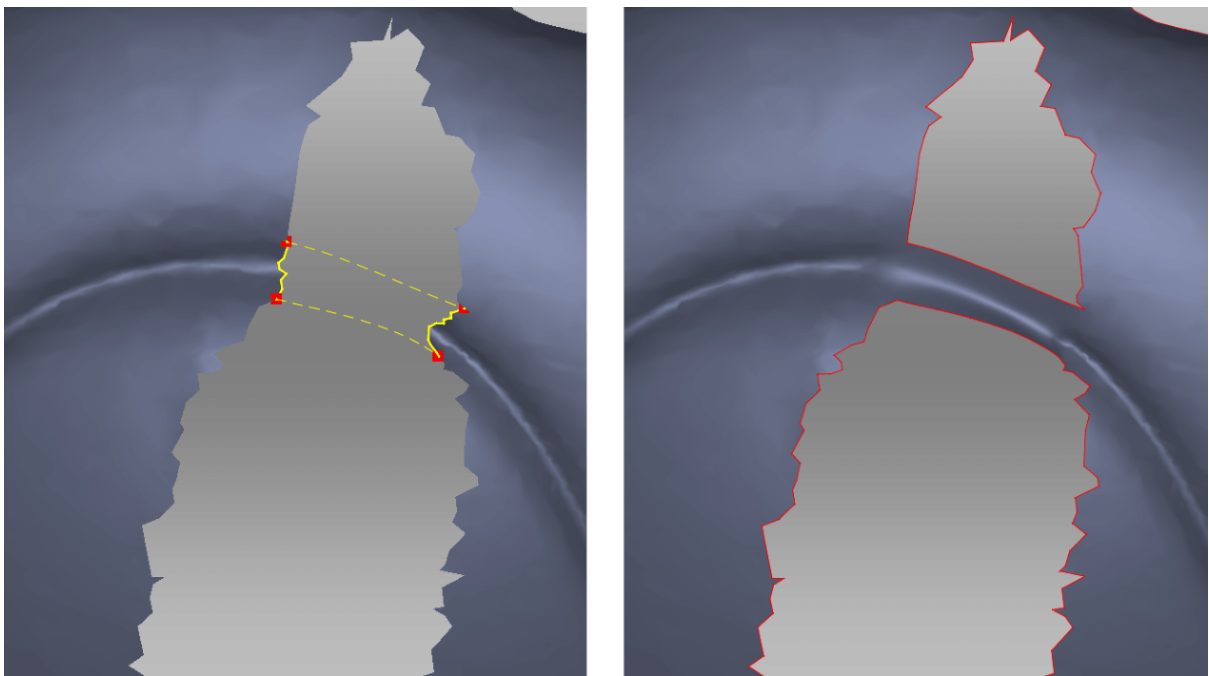

Figure 110: Specifying fragments. Correct fragments can resolve original geometry.
2. Specify two opposite fragments³ between which a bridge will go (Figure 110). There are two ways to do this:
Preserve the original geometry (Figure 110)	Clear the Smooth edges first checkbox